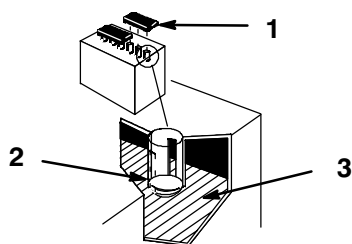

Figure 88
1. Open covers to see into the cells. The electrolyte must be up to the lower part of the tube (Fig. 88). Do not allow the electrolyte to get below the plates. (Fig. 88).
2. Lift off the filler caps (Fig. 88).
3. Slowly pour distilled water into each battery cell until the level is up to the lower part of the tube (Fig. 88).